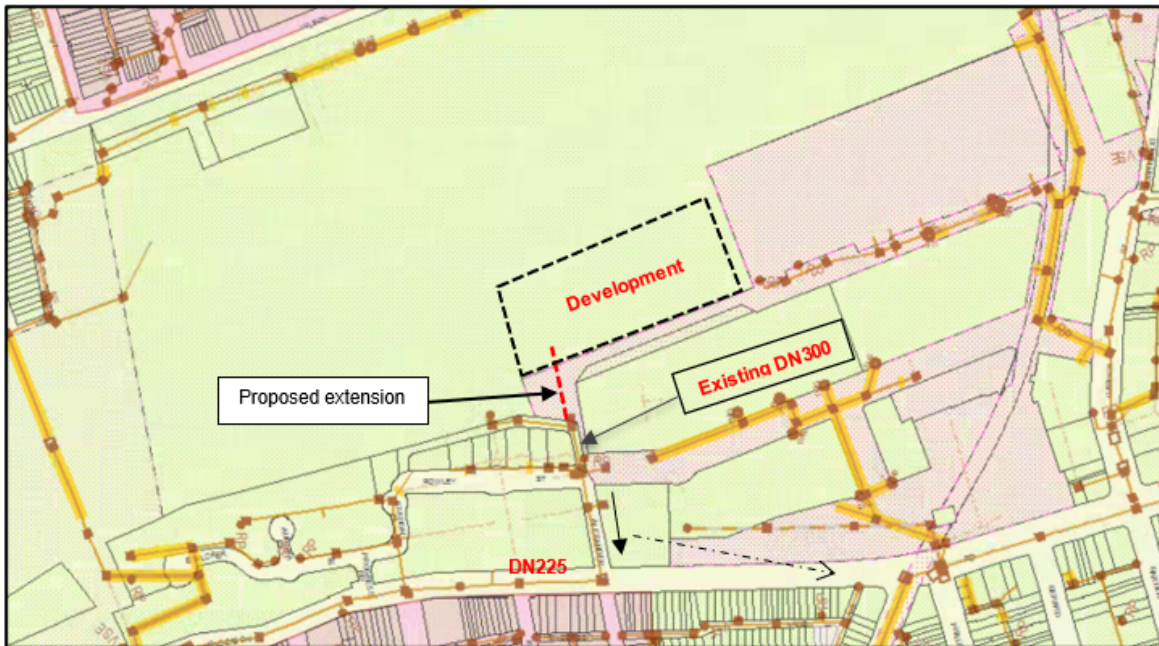

Figure 1
- Modelling assessment shows that the existing DN300 and downstream sewer main has sufficient capacity to service the proposed development. Refer to Figure 1